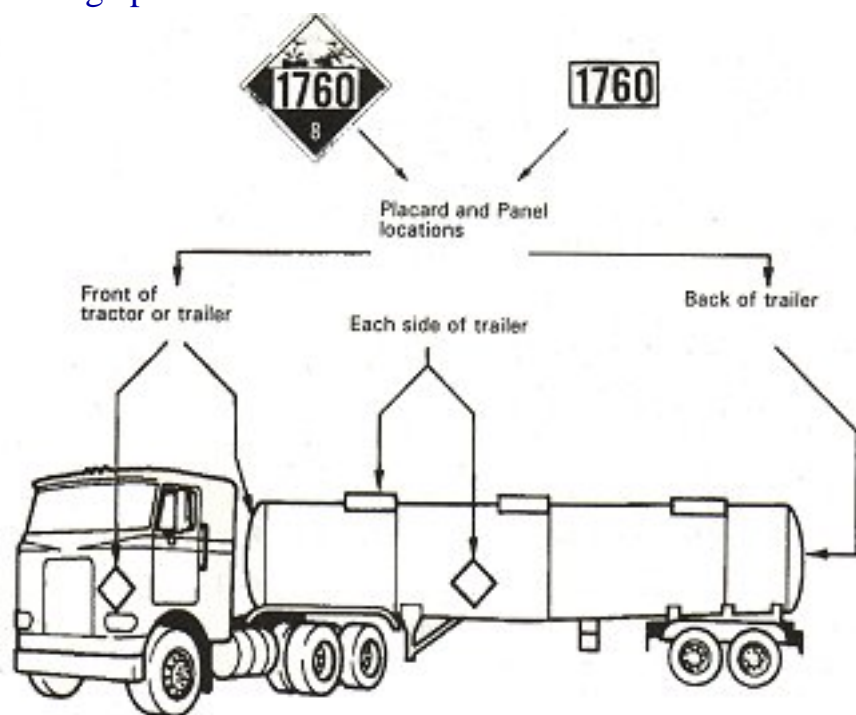

Figure 9-3
**Placards** are used to warn others of hazardous materials. Placards are signs put on the outside of a vehicle which identify the hazard class of the cargo. A placarded vehicle must have at least 4 identical placards. They are put on the front, rear, and both sides of the vehicle (see Figure 9-3). Placards must be readable from all four directions. They are 10 3/4 inches square, square-on-point, in a diamond shape. Cargo tanks and other bulk packaging display the I.D. number of their contents on placards or orange panels or white square-on-point displays that are the same size as placards.